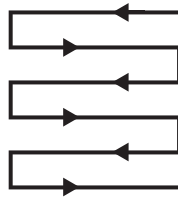

Fig. 23
5. Mow in slight overlapping rows. The most effective pattern for mowing lawns is straight lines along one of the sides. This will keep the rows even and ensures that all the lawn is cut without missing any spots (Fig. 23).